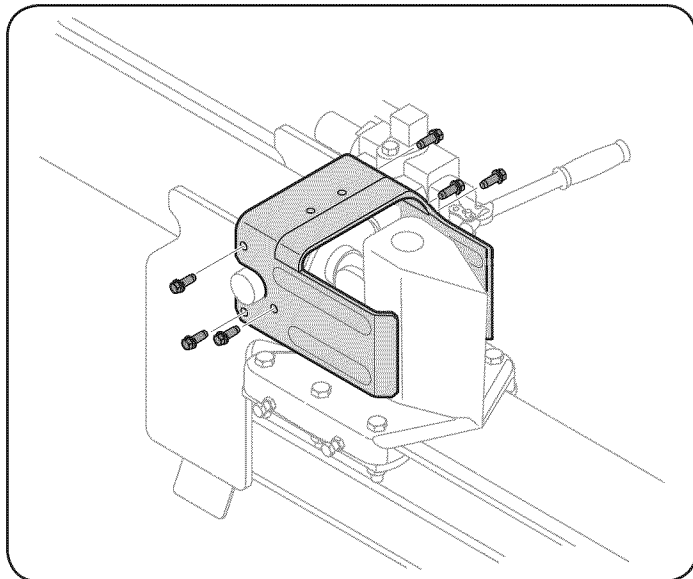

Figure 6
4. Lift and slide the cylinder up to the top of beam and into the weld brackets. See Figure 6.
5. Attach the dislodger over the wedge assembly and secure it to the weld brackets with the previously removed hardware. See Figure 6.
2. Remove the vented reservoir dipstick, which is located in front of the engine on top of the reservoir tank. See Figure 6.